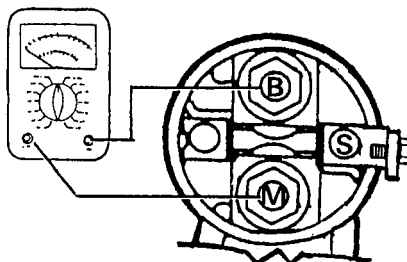

Figure 5-10. Testing Solenoid Switch
(6) Testing Brush Springs. Style II Starter. Firmly hold brush holder and push the brush against the brush spring until completely inside of its guide. If little or no resistance (tension) is present, spring should be replaced. Badly worn or pitted brush surface may indicate weak spring.
(7) Testing Solenoid Switch. Style I Starter. (see figure 5-10).
(a) Check to be sure plunger moves freely in coil. Measure pull-in coil current using a ammeter. See Test A, figure 5-10, Current should not exceed 16 amps.
(b) Measure the hold-in current using Test B, figure 5-10. Current should not exceed 6 amps.
(c) Check total hold and pull current draw using Test C, figure 5-10. Total current should not exceed 25 amps. Replace defective solenoid switch.
(8) Testing Solenoid Switch. Style II Starter. (see figure 5-10).